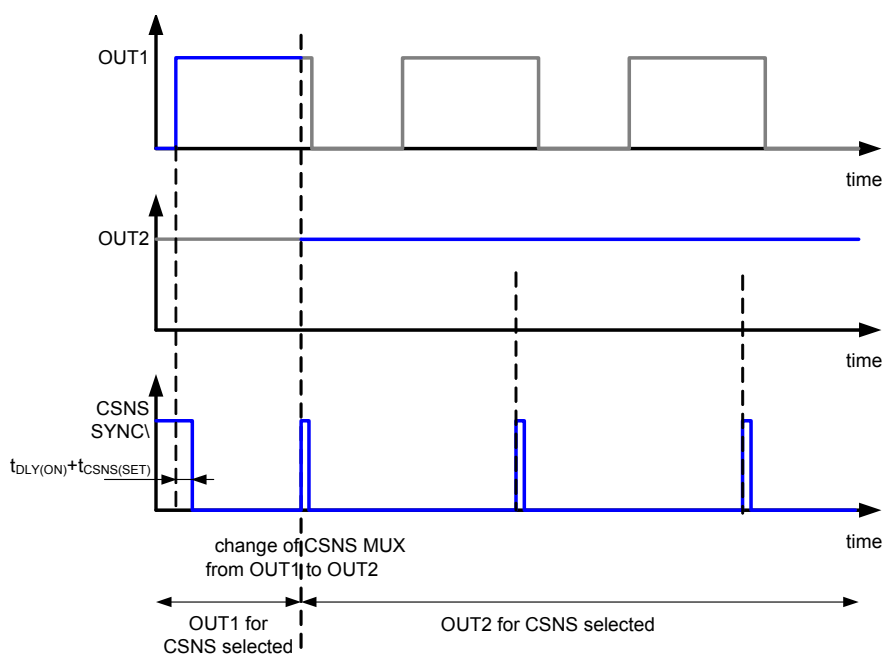

Figure 32. CSNS SYNCB when the output is programmed with 100%
- when the output is programmed with 100% PWM, the CSNS SYNCB delivers a logic[0] a high pulse with the length of 100 μ s during the PWM counter overflow for TRIG0 and TRIG1/2 settings, as shown in Figure 32